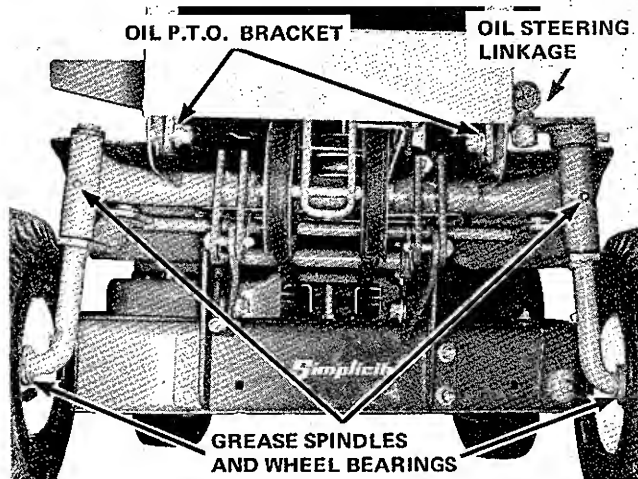

FIGURE 21
4. **General Lubrication:** The five grease fittings on your tractor should be greased with a lithium base automotive type grease. Remove all dirt, grit and paint from the fitting before greasing. A few drops of engine oil should be applied to the points indicated. Do not allow oil to get on belts or pulleys. (See Figures 21, 22 & 23).